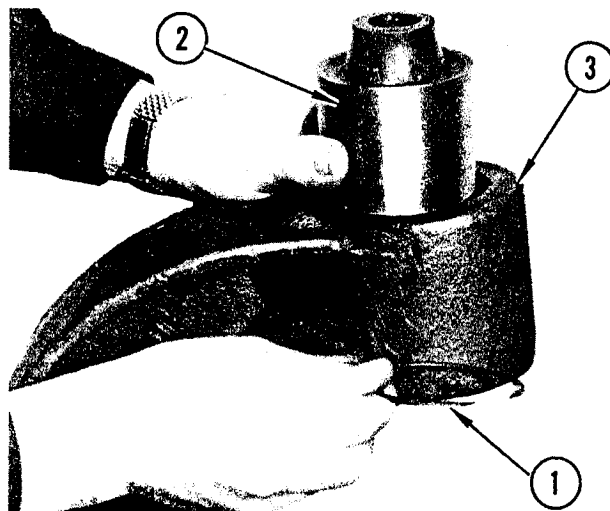

FIGURE 119. TUBULAR MOUNT
In case the clearance at "A" is below the minimum allowance, move shims from lower washer to upper washer. If unable to obtain the minimum at "A" it will be necessary to install new tubular mounts. Refer to Figure 119. Install snap ring (1) and tubular mount (2) into engine support (3). With new tubular mounts, the clearance should be: